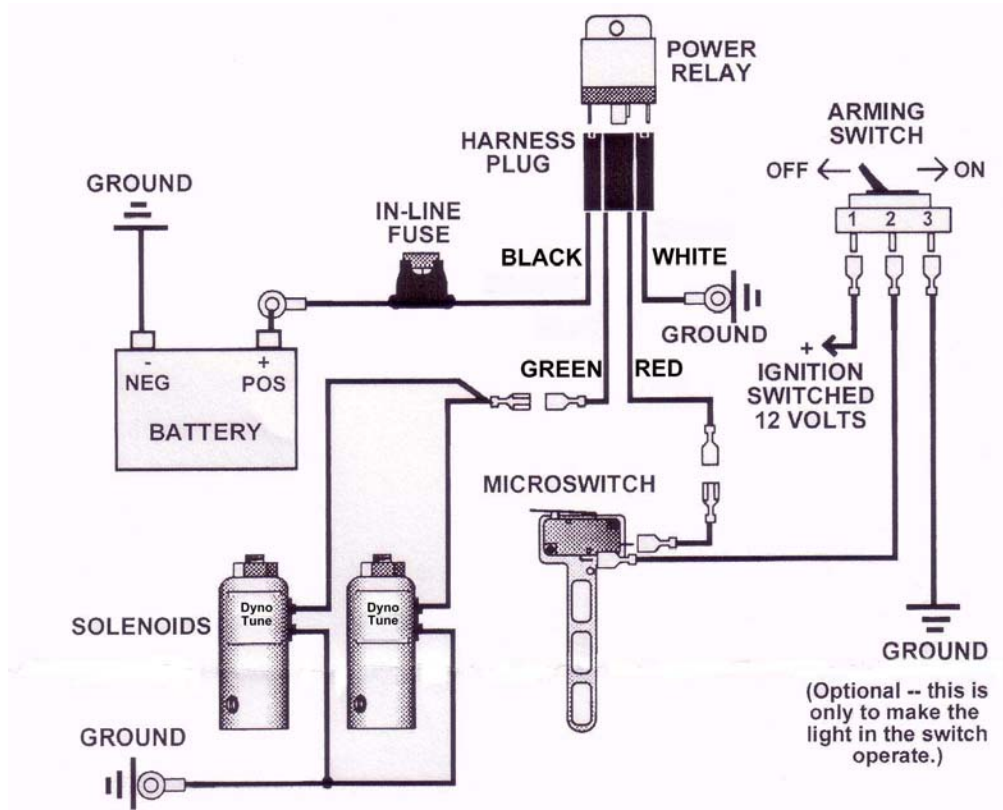

FIG. 9
Refer to figure 9 and the procedures in this section for electrical system installation. **WARNING! Death or injury may occur from working on a charged electrical system.**
- 8) Push the throttle wide open while the engine is not running, bottle closed. Each solenoid should make a clicking noise if it is working properly. If no Noise is heard, check all wiring connections and each wire in schematic per figure 9. **NOTE: Nitrous and Fuel flowing through the solenoids is needed to keep the coils from melting. Short, one second power cycles will not hurt them but more than 5 seconds with no nitrous or fuel flowing though them will melt the coils and void your warranty.**